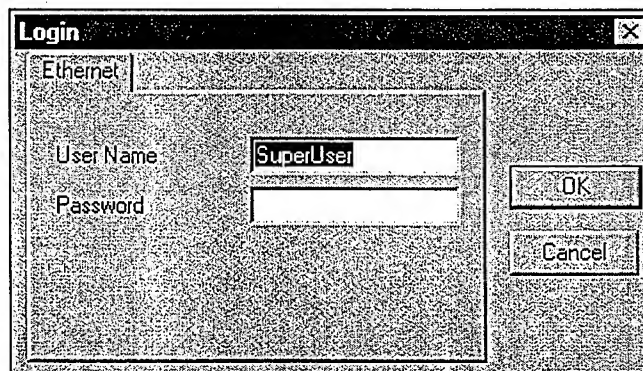

Figure 5. Login Dialog
2. Highlight the desired BCG. The Password Dialog window appears (see Figure 5)